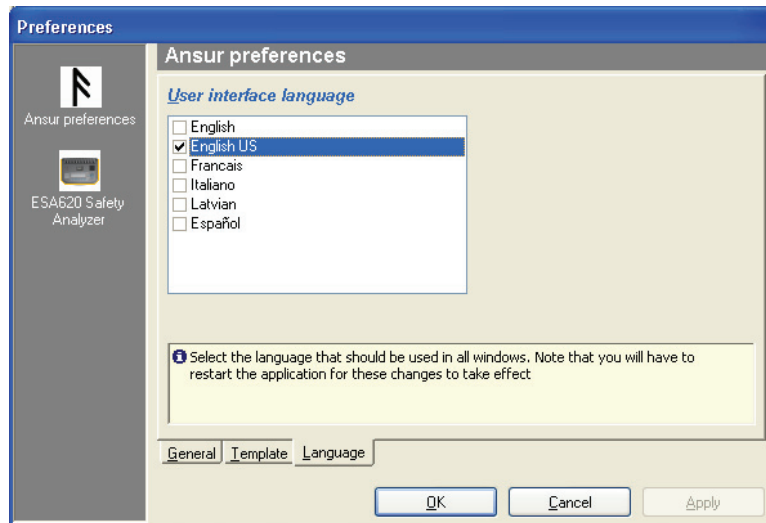

Figure 2-5. Selecting AAMI Terms
3. Select **English US** from the list. See Figure 2-5.